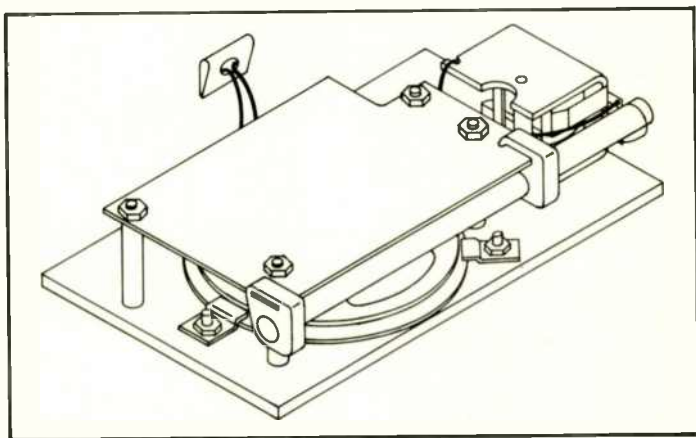

FIG. NO. 7
- () 27. Remove the 4 nuts from the long screws and mount the circuit board over the screws. Rotate speaker if necessary to allow circuit board to position itself. Replace the nuts and tighten. *See Fig. No. 7*
- () 28. Solder the wire from the end of the antenna to the *bottom terminal* of the tuning capacitor. *See Fig. No. 7*.